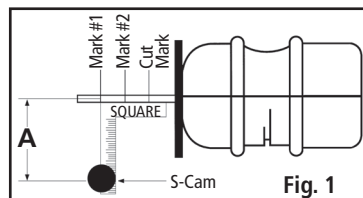
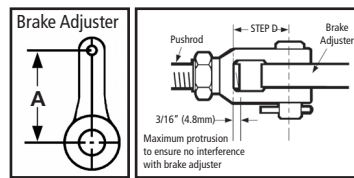

Fig. 1
Fig. 2
**Step 4.** Measure the distance from the centerline of the S-Cam to the centerline of the push-rod (See Fig. 1 - Dim. A). This measurement should be equal to the length of the brake adjuster being used (See Fig. 2 - Dim. A).
NOTE: If Fig. 1 - Dim. A and Fig. 2 - Dim. A are not identical, the chamber mounting bracket is either bent and must be straightened or replaced, the chamber has been mounted improperly in the bracket or the length of the adjuster installed is incorrect. Make any necessary corrections before going to Step 5.
**Step 6.** Using a square, mark the push-rod at the 90° setting (See Fig. 1 - Mark #1). From this mark, subtract the measurement recorded in Step D and make a second mark on the push-rod (moving toward the brake chamber mounting surface). (See Fig. 1 - Mark #2).